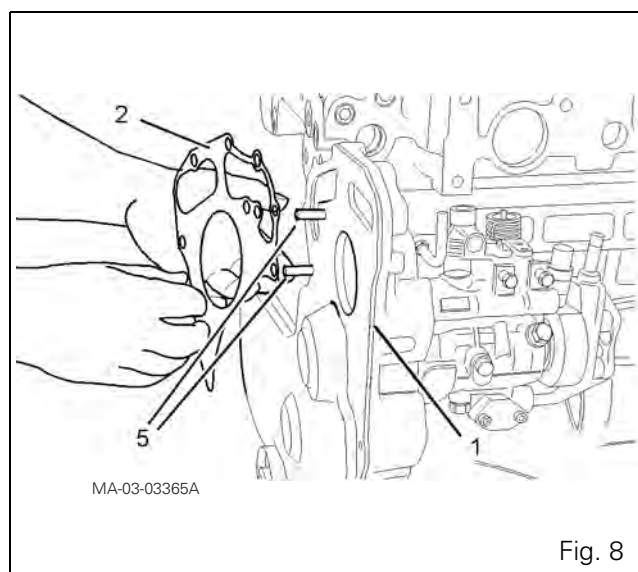

Fig. 8
47. Clean the mating faces of the seals on the pump (4) and the housing (1) (Fig. 8).
48. Install two guide studs (5) on the housing (1) (Fig. 8).
- NOTE:** Do not apply sealing product to the new seal (2).
49. Fit the new seal (2) on the housing (1).